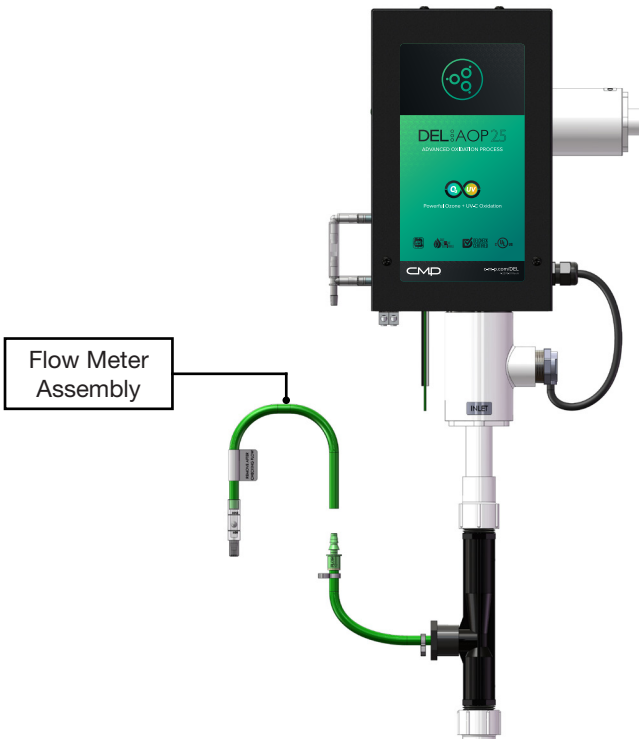

Figure 3: Flow Test
1. Temporarily disconnect tubing from inlet side of the Check Valve and attach Flow Meter Assembly (see **Figure 3**).